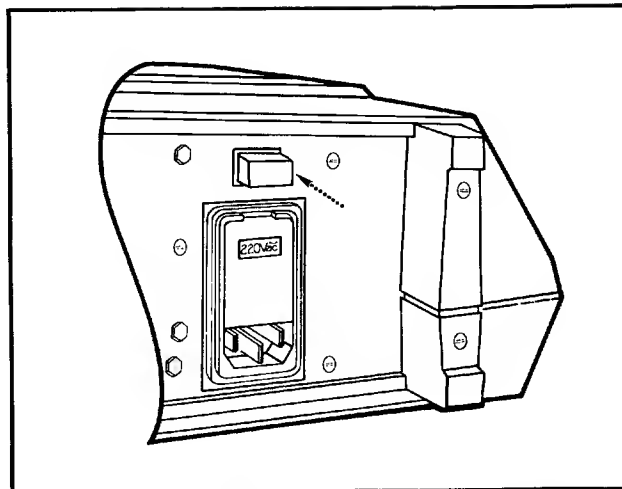

Figure 3-1. Programmer Power Switch Location
3. Depress the power switch to the ON position. Figure 3-1 shows the power switch location and indicates the ON position. The ON position has been achieved when a green "eye" appears inside the switch.